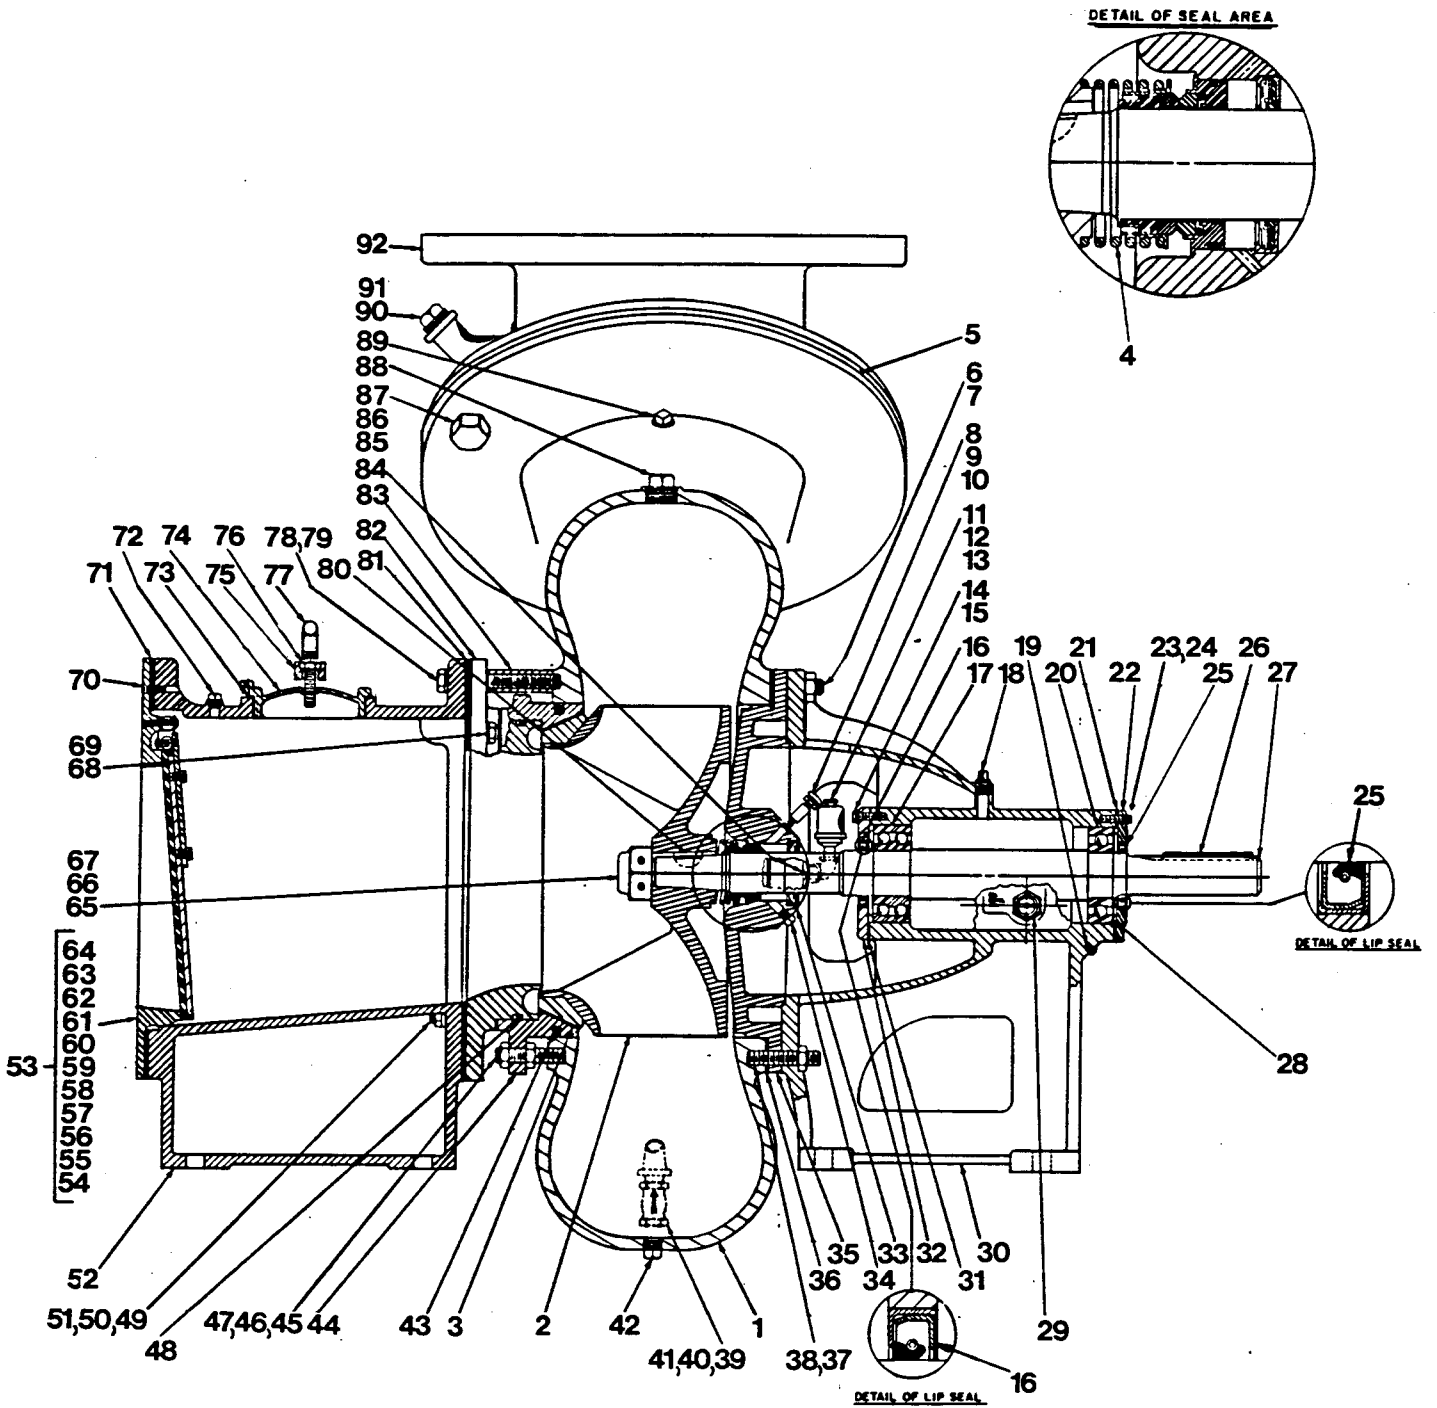

Figure 2. Pump End Assy 112A20-B
(Figure 2)
See Figure 1 and disconnect the suction piping from the suction flange (82). Disengage the hardware securing the suction flange to the check valve flange (52, Figure 2) and remove the suction flange and gasket (81, Figure 1).